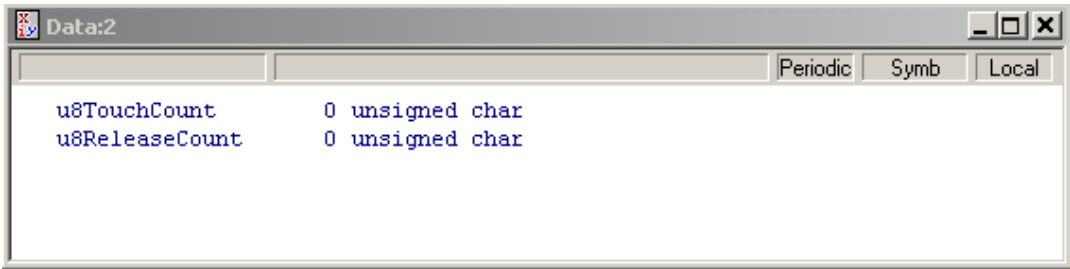

Figure 56. Global variables
- In Figure 56 the Data:2 window now displays both global variables.